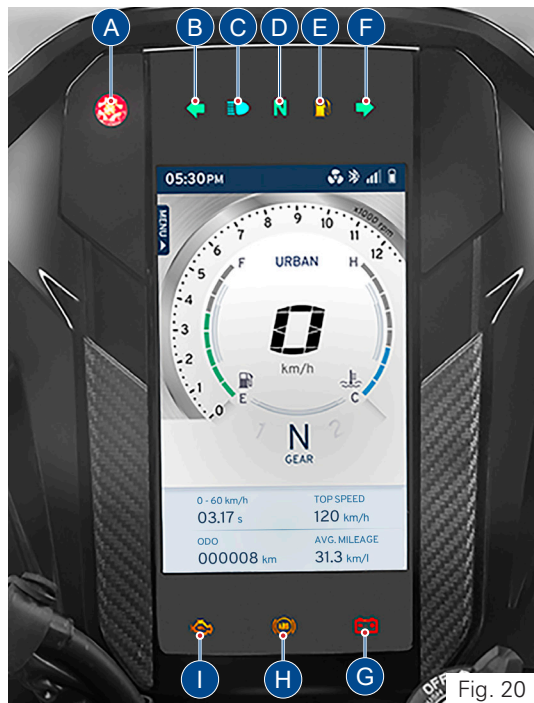

Fig. 20
- 1) Warning and indicator lights (ref. Fig. 20)
Warning and indicator lights (ref. Fig. 20)